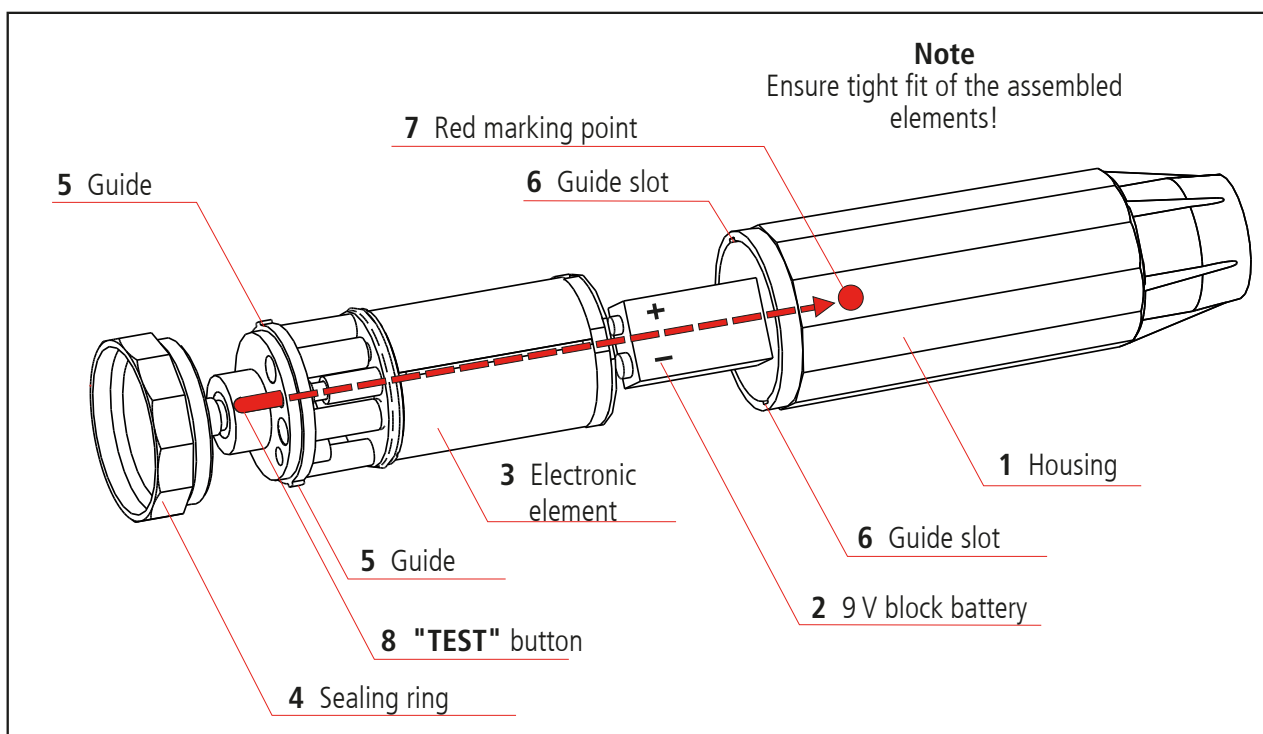

Fig. 9
9.1 Open the housing **(1)** by turning the sealing ring **(4)** on the lower end of the indicator counterclockwise (the insulating stick does not have to be removed) (see Fig. 9).
9.2 Remove the electronic element **(3)** from the housing (see Fig. 9).
Battery replacement (see Fig. 9):